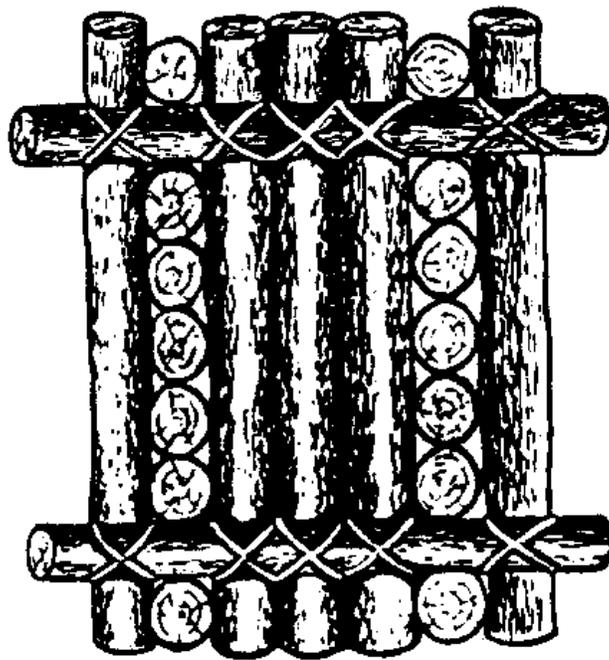

Fig. 13-7a Log Form (Side View)
b. **Log Form** - Lash logs together as shown in Fig. 13.7a and 13.7b to form a rectangular shaped box with an internal space one foot wide. Fill with ice-crete.